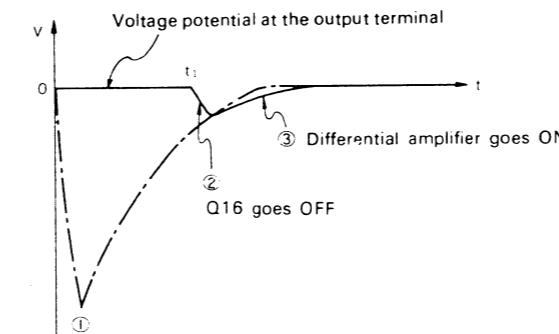

Fig. 1 Output terminal potential change
If there is no protection circuit, due to the bootstrap circuit consisting of C39, R55 and R57 and for C29, Q3 is turned on for a short time. As a result, Q1 in the differential amplifier is turned off and the output tends to be negative. after this the balance of the differential amplifier tends to be restored and the potential of the output returns to 0 as shown by the chained line ① in figure 1. Such a rapid and wide variation in potential results in output of shock noise.
These transistors remain OFF until the potential at point X drops below approximately 0.7V because of the delayed $-V_B$. Then Q16 will be OFF and the stages after the predriver will be ON. As Q16 is not turned off immediately, the delay indicated by ② in figure 1 occurs. Because of the integrator, the differential amplifier is turned on slowly to suppress shock noise as shown by ③ in figure 1.